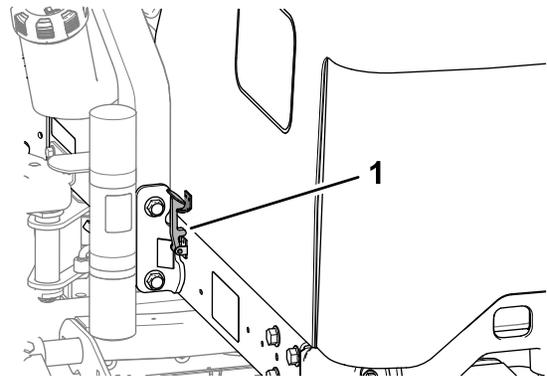

Figure 53
2. Rotate the hood up and back (Figure 53).